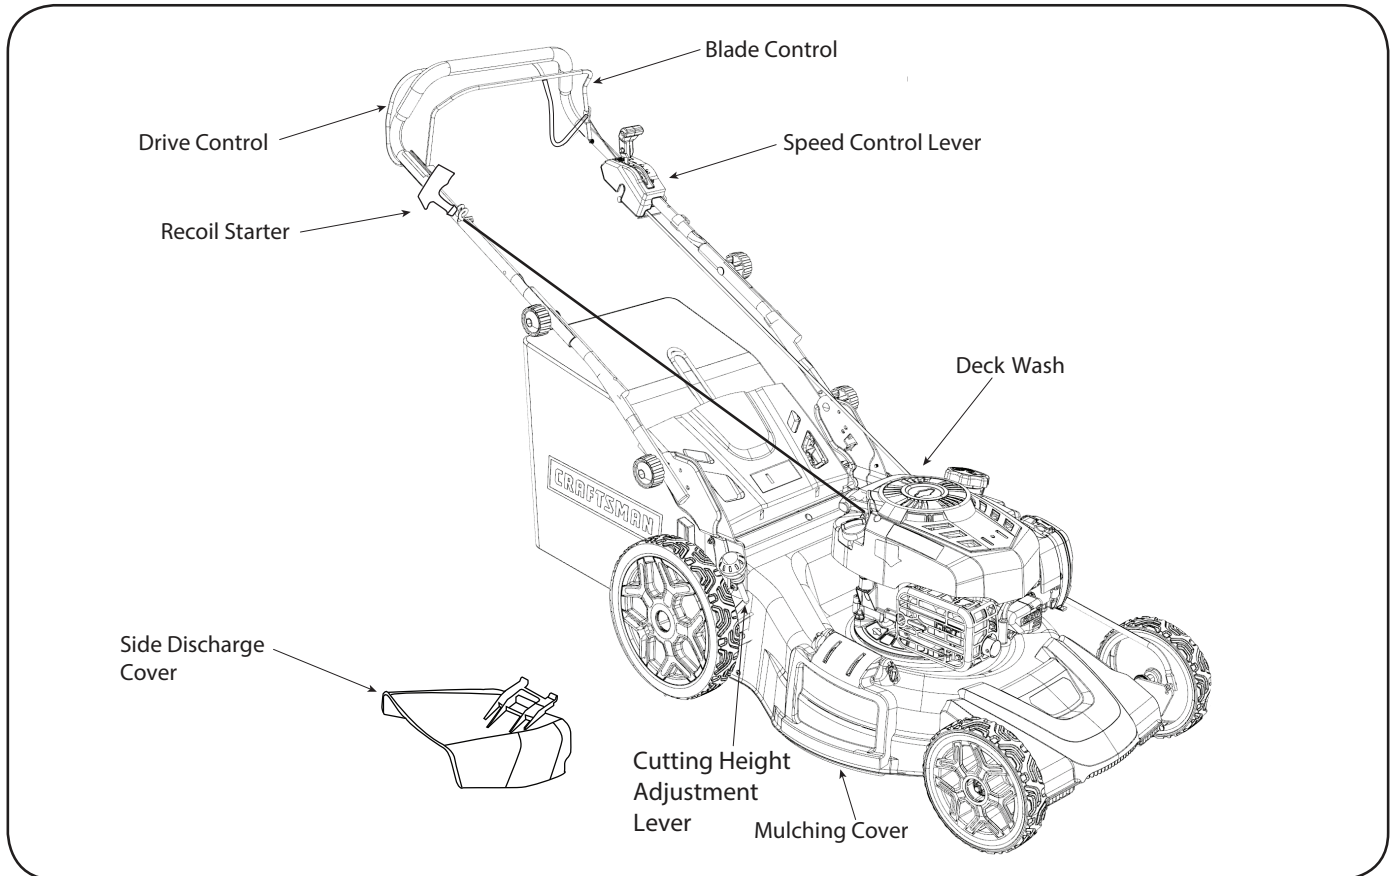

Figure 10
1. Standing behind the mower, pull the blade control handle back against the upper handle (Figure 10).
2. While holding the blade control against the upper handle, grasp the recoil starter handle and pull rope out with a rapid, continuous, full arm stroke (Figure 10). Keeping a firm grip on the starter handle, let the rope rewind slowly. Repeat until engine starts. Let the rope rewind each time slowly.